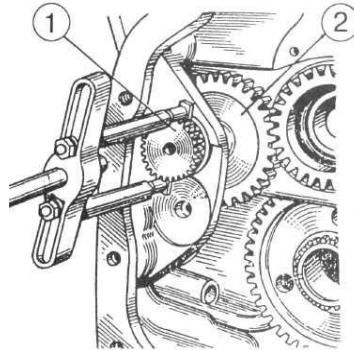

Figure 4.37
- g) press out shaft-gear 1 (Figure 4.37) together with bearing and locking ring;